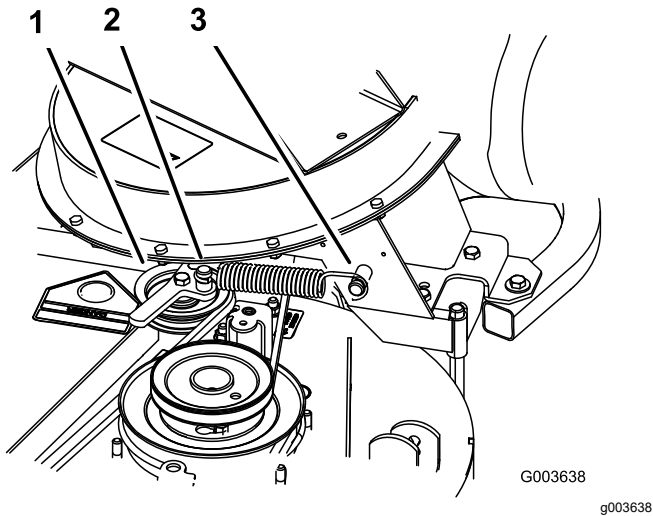

Figure 43
6. Install the spring as shown in Figure 43.